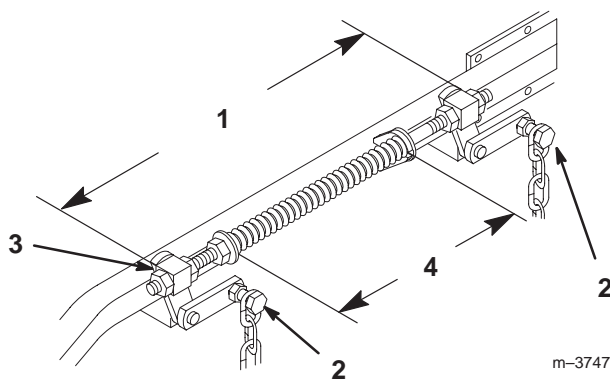

Figure 59
6. Loosen the 4 top chain bolts in the slots. Check the length of the rod/swivel assemblies. The distance from the outside of the rear swivel to the outside of the front swivel should be 19-17/32 inches (496 mm) (Fig. 59). Make sure that all four swivels move freely in the holes.
14. Adjust the compression springs by turning the front spring nuts so that the distance between the two large washers is 11 inches (279 mm) (Fig. 59). Clockwise will shorten the spring; counterclockwise will lengthen the spring.